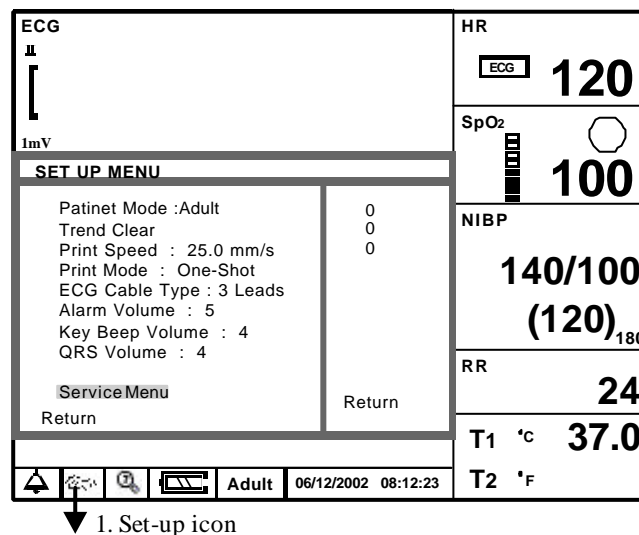

Figure 5. The access of Service Menu via Set-up menu
4. Three digits displays in the Level 2 Menu as shown in Figure 5.
3. Rotate the knob to highlight Service Menu in the Set-up menu (see Figure 5), and then press the knob to enter the Demo access code for Demo mode.